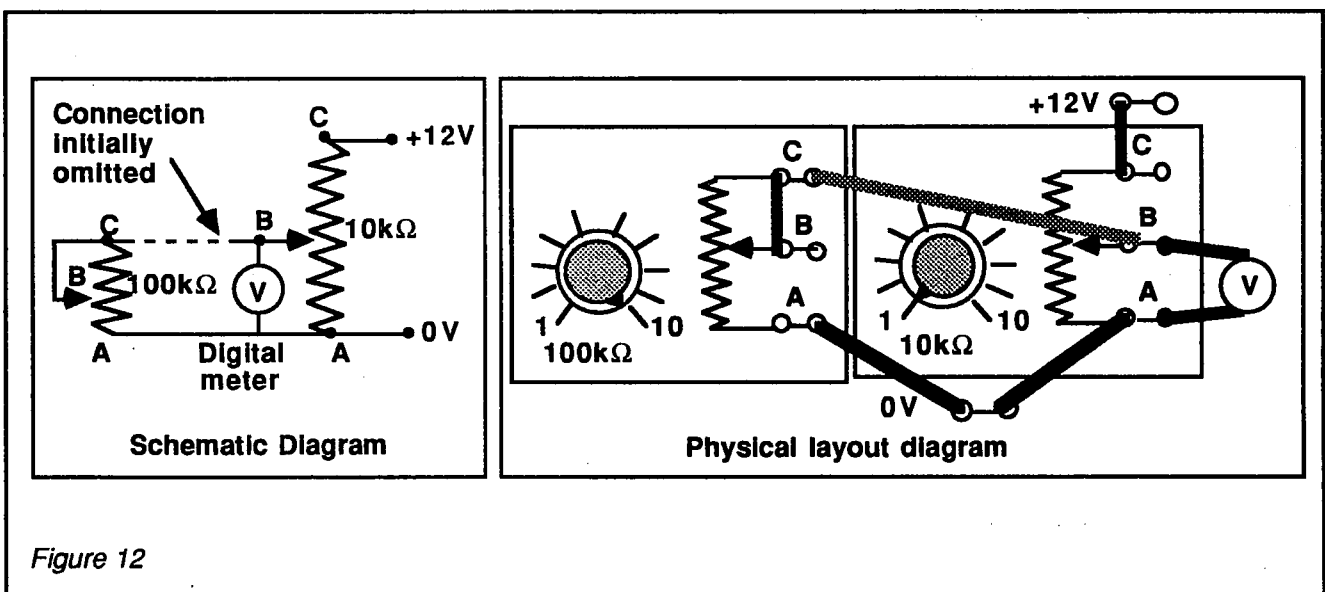

Figure 12
- With the power supply switched off, connect the circuit as shown in Fig 12, but omitting the link (shown shaded) between contact C of the 100k Ω load resistor, and wiper contact B of the 10k Ω positional resistance transducer. With this link omitted, the positional resistance transducer is unloaded.
- Set the control of the 100k Ω load resistor fully clockwise, i.e. setting 10, and insert the link shown shaded in Fig 12. Note the output voltage and enter the value in Table 4.